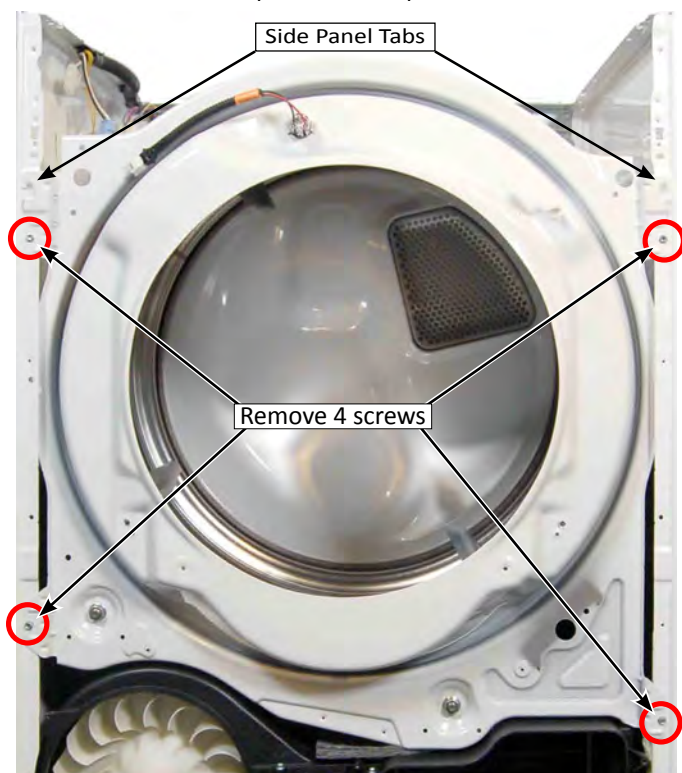

Figure 7
11. Remove the four (4) 1/4" hex-head screws securing the front bulkhead to the side panels as illustrated in Figure 7. Lift the bulkhead up off the side-panel tabs and remove.